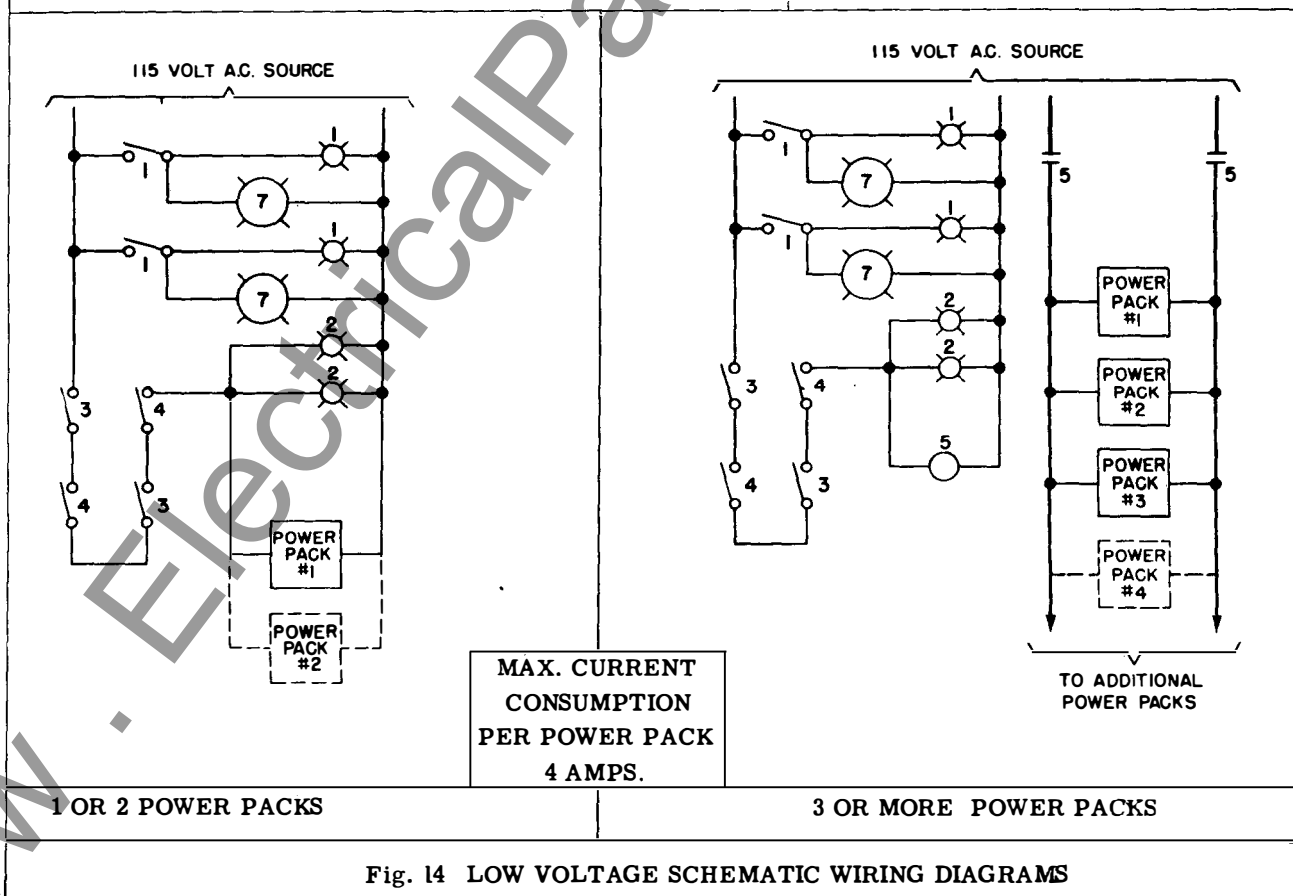

Fig. 14 LOW VOLTAGE SCHEMATIC WIRING DIAGRAMS
Typical low voltage wiring diagram is shown in Fig. 14. The 115 volt supply to the power packs should be run in conduit. All low voltage wiring inside the duct should be installed in conduit and made watertight.
**Magnetic Contactor** is supplied only when more than two power packs are furnished. It should be mounted outside the duct adjacent to the power packs as shown in Fig. 14.
**Red Pilot Lights** (supplied with accessories) should be installed above the two duct access doors. (See Fig. 14). These lights glow when power is connected to the power packs.
**Manual Switches** (supplied with accessories) are to be installed inside the duct adjacent to the two duct doors as shown in Fig. 14. These permit the operator to disconnect the 115 volt supply and prevent power from being accidentally turned on while he is inside the plenum.
**Duct Lights** (supplied with accessories) are to be installed at the ceiling on each side of the frame bank to facilitate inspection and servicing. See Fig. 14.
**Ductlight Switch and Pilot** (supplied with accessories) should be installed as shown in Fig. 14 to control the duct lights and indicate when they are lighted.